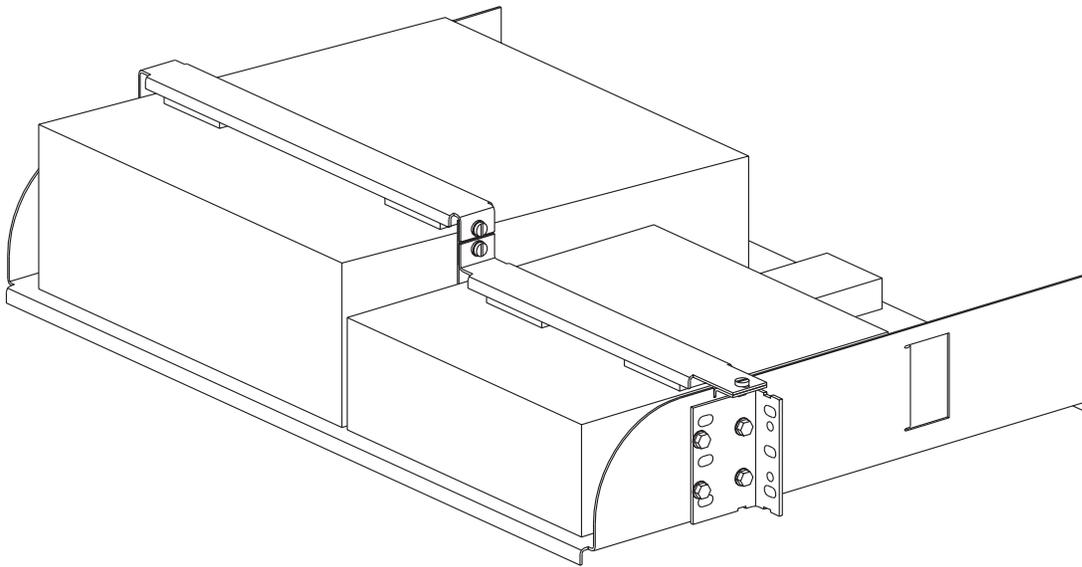

Figure 3-10: PAD and DSU Mounting Shelf
1. Set the units on the shelf in the positions shown in Figure 3-10, making sure the feet on the bottom of the unit protrude through the holes in shelf.